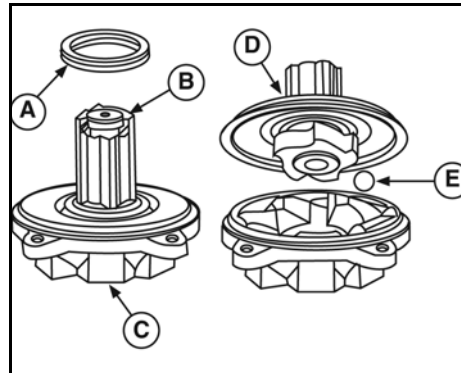

Figure 18
Some Vertical model 280000s utilized a sealed starter clutch on the rewind starters. The starter clutch assembly consists of a seal (A, Figure 18), ratchet (B), clutch housing (C), retainer cover (D), and 6 ball bearings (E).
3. Stand ratchet upright on work surface and add one or two drops of clean oil to the lubrication hole in the Welch plug (B, Figure 18). Allow several minutes for the oil to be absorbed by the felt disc inside the ratchet.
1. Mark center of rivets holding ring gear (A, Figure 18) to flywheel, with a center punch.
4. Attach new gear to flywheel using four screws (B) and lock nuts (C) provided with the gear.